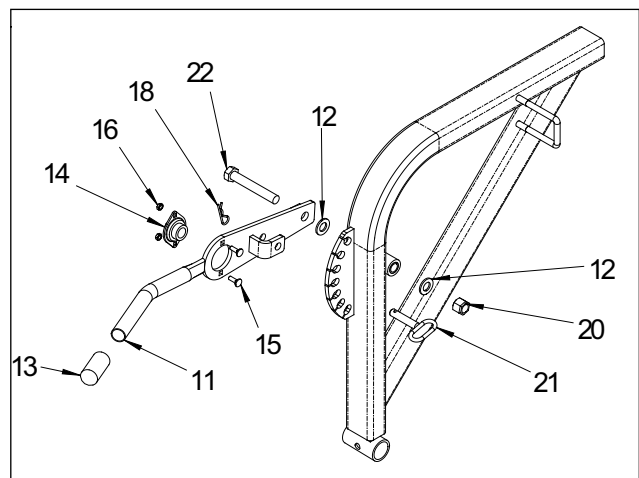

Figure 2.6 - Handle Assembly, Right Leg HANDLE ASSY.CAD
4. Refer to *Figure 2.6*. Lift each end of the roller assembly so the end of the handle assembly can be secured to the bushing on the leg using a 3/4"x5" bolt (#22), two 3/4" SAE washers (#12) and a 3/4" locknut (#20). Repeat this on the second side. **DO NOT OVERTIGHTEN.**